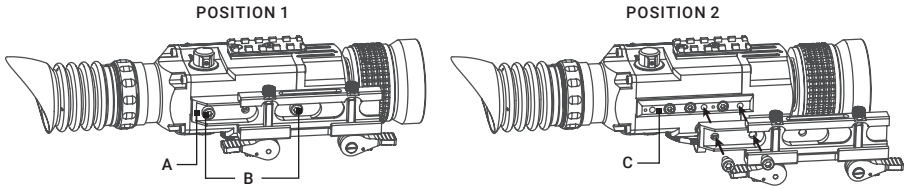

FIGURE 2-2. MOUNT ASSEMBLING
The Python comes fully-assembled with a Picatinny/Weaver mount (Figure 2-2). The mount (A) is attached to the scope seating rail (C) with two M5×8 flathead socket cap screws (B).
1. Remove the two screws (B, Figure 2-2) that attach the mount (A, Figure 2-2) to the seating rail (C, Figure 2-2).